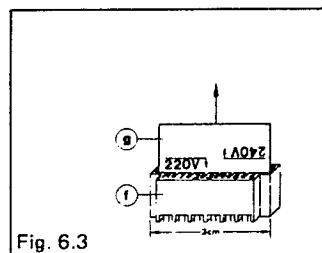

Fig. 6.3
- Remove p. c. board ③ from the blue socket ④ (on the transformer), (Fig. 6.3).